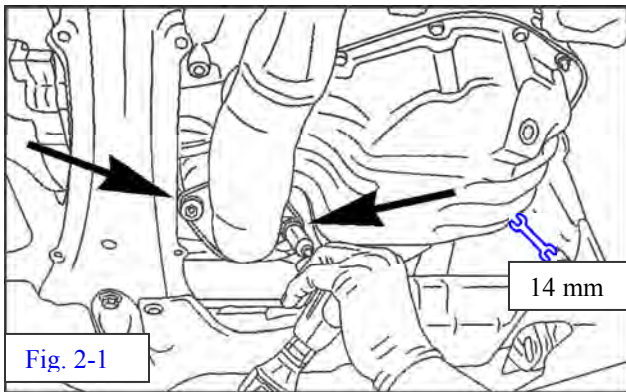

Fig. 2-1
- (b) Remove the 2 exhaust bolts and let exhaust pipe hang down low in order to gain access to oil pan bolts. (Fig. 2-1).